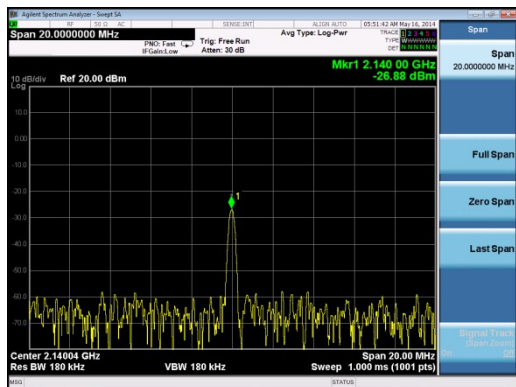

Figure 13 Basic TX testing using DC offset resulting in LO leakage
When the transmitter is configured as shown in section 1.9, the TX1\_A output (socket X1) can be connected to a spectrum analyzer (SA). With the SA you can now observe the results of this basic operational test (Figure 13). The test is looking at the DC offset from the un-programmed data DAC as LO leakage and the example shown below is measuring a value of -26.8dBm.